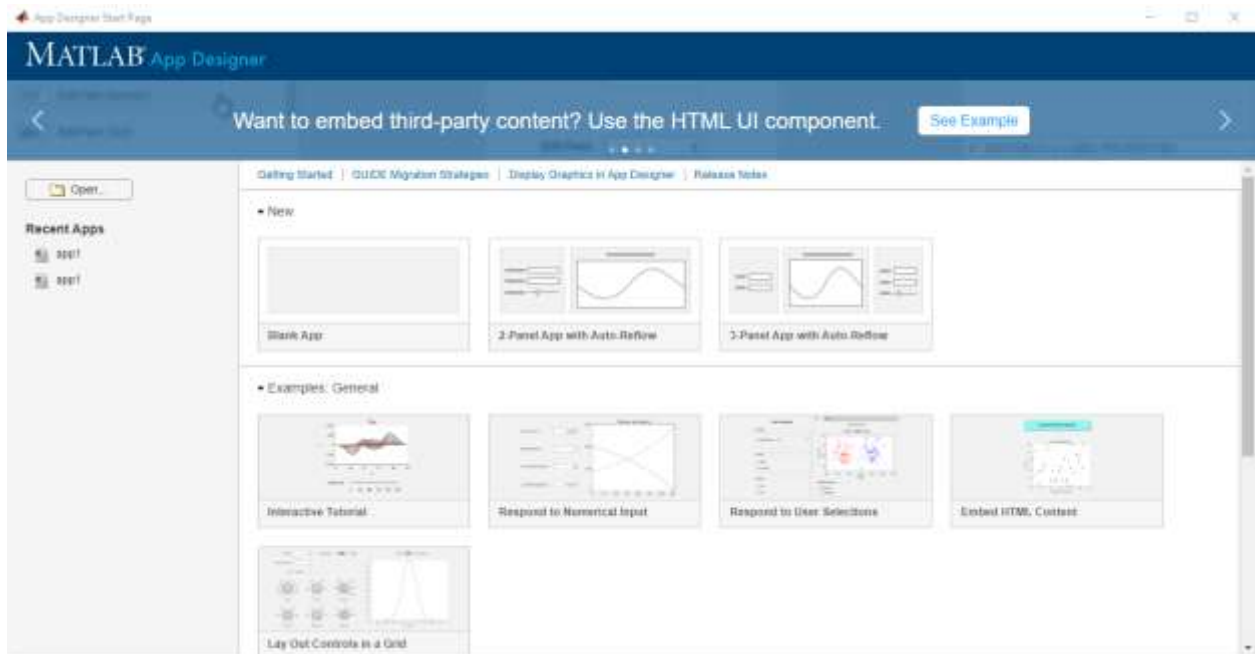

Figure 4: App Designer Start Page Default Screen
1. App Designer Start Page will popup and the following screen will be displayed as shown in Figure 4.